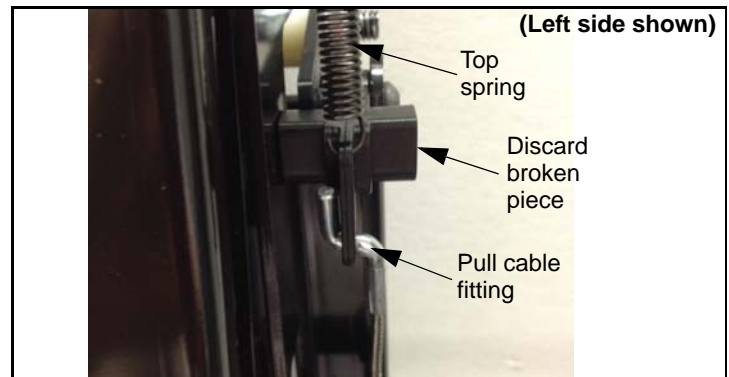
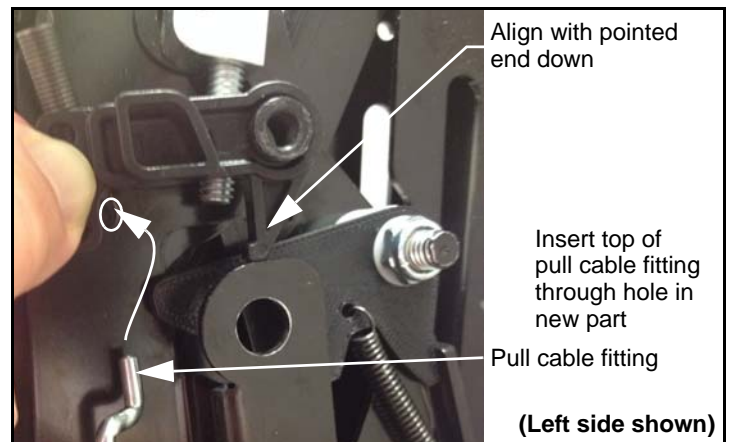

Figure 4
Figure 5
3. Disconnect spring from top and pull cable from the bottom, and discard broken piece. (See Figure 4)
4. Align new piece (B) with opening, and install pull cable fitting through hole. (See Figure 4) and (See Figure 5)